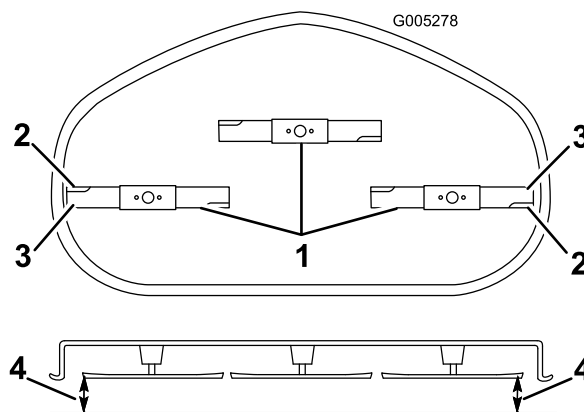

Figure 51
4. Carefully rotate the blades so that they are all side to side (Figure 51).
5. Measure between the outside cutting edges and the flat surface (Figure 51). If both measurements are not within 3/16 inch (5 mm), an adjustment is required; continue with this procedure.